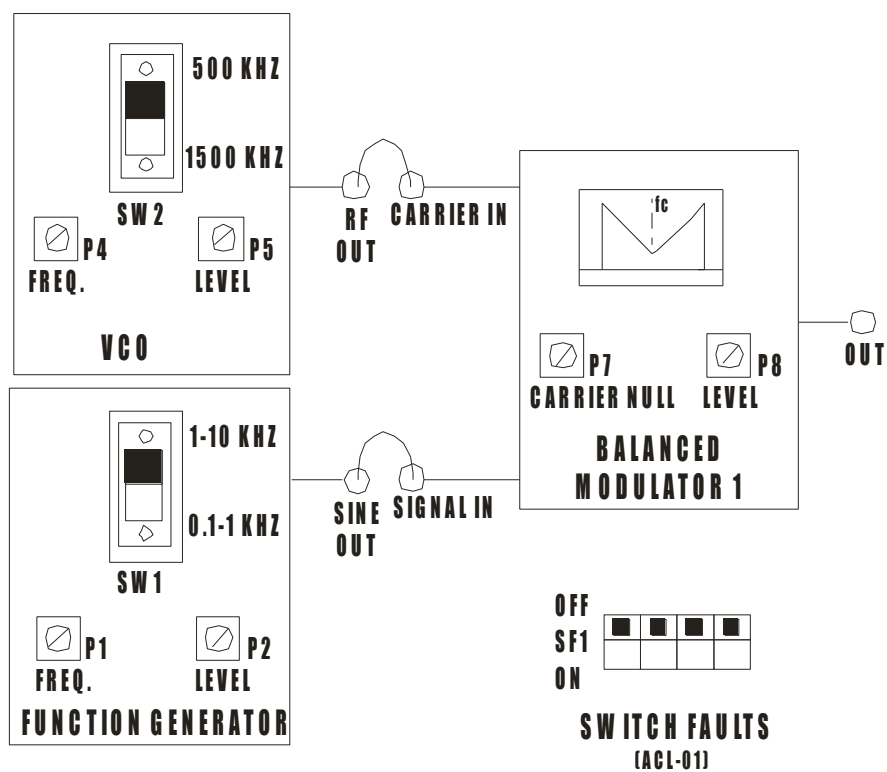

FIG.1.14 BLOCK DIAGRAM FOR STUDY OF DSB AM GENERATION
1. Refer to the FIG. 1.14 & Carry out the following connections.